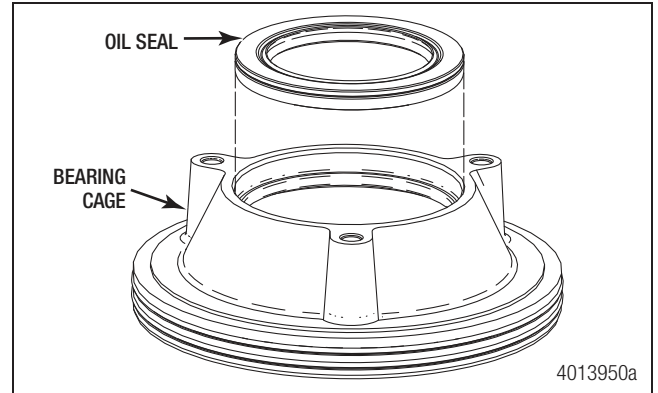

Figure 6.31
- If removed, use the correct driver to install the oil seal so that it is flush with the bearing cage. Refer to "Tools" on page 60. Figure 6.31.